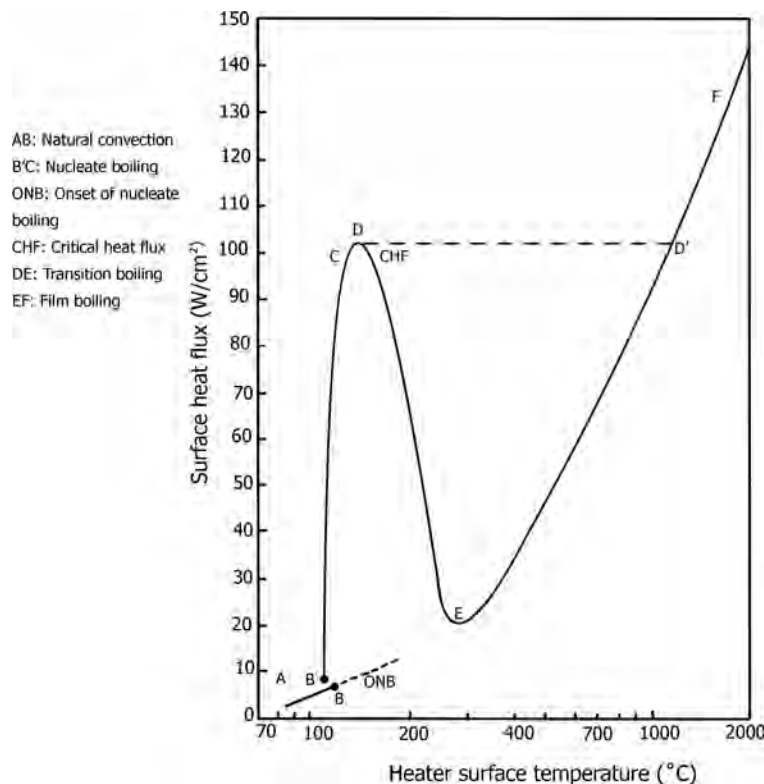

FIGURE 9.10 Pool boiling curve for water at atmospheric pressure.
- Figures 9.10 and 9.11 illustrate pool boiling curve and stages involved in pool boiling curve.
- *Natural Convection Boiling (AB)*: As the temperature of the heater is increased from the initial bulk value, the liquid close to the heated surface rises and is replaced by cooler fluid. Since no vapor is formed in the heating process, the heat transfer is governed by natural convection. Transport by natural convection occurs until the heater temperature is slightly greater than the boiling/saturation temperature
- *Nucleate Boiling (B'C)*: When the surface temperature is increased beyond the boiling point, small vapor bubbles form at points along the heater surface. In Figure 9.10, this temperature difference corresponds to point B', which represents the *onset of nucleate boiling*. The bubbles formed along the heater surface collapse as they move and grow into the colder subcooled liquid. The growth and collapse of the bubbles causes increased turbulence from that found in the natural convection process. When bubble collapses, liquid rushes to occupy the space originally occupied by the bubble. This increased turbulence along with the latent heat transported by the vapor bubbles increases surface heat transfer. Therefore, the nucleate boiling region is accompanied by a substantial increase in heat transfer from that for natural convection as shown in Figure 9.10.
- Beyond the critical heat flux, two possibilities exist depending on the heating conditions. If the surface heat flux is controlled and increased beyond critical point, the surface temperature increases dramatically as shown by the dashed line from point D to D' in Figure 9.10.
- Leidenfrost noted that when liquids were spilled/placed on very hot surfaces, drops were formed that did not contact the surface but floated above it and slowly vaporized. When surface temperature was reduced below a certain value, the drops contacted the surface and rapidly vaporized. This phenomenon is called Leidenfrost phenomenon and point E on the boiling curve (Figure 9.10) is called Leidenfrost point.